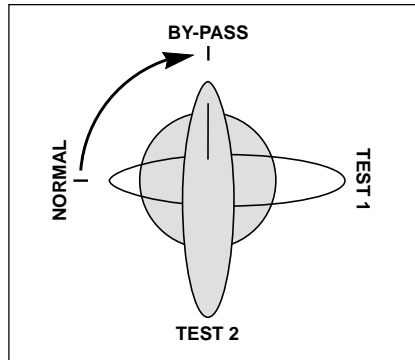

Fig. 24
- ▷ turn off the input power switch (1),
- ▷ switch the battery circuit breaker (4) to "off" position,
- ▷ turn the "manual bypass" switch (8) as indicated in figure 24 from the "NORMAL" position to the "BYPASS" position.